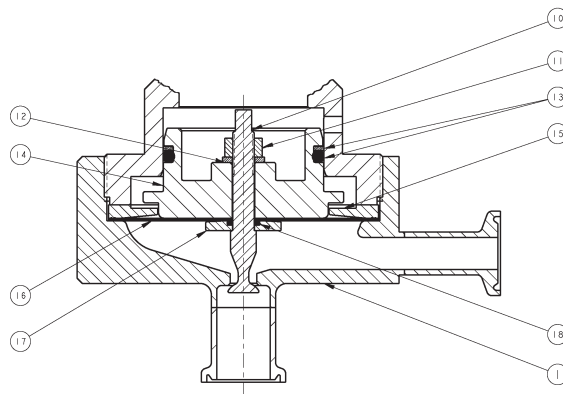

FIGURE 1: Diaphragm & Plug Subassembly
1. Secure the body (1) in a soft-jaw vise using the flats on the sides of the body. Orient the knob (3) upwards.
2. Relax compression on spring (8) by turning knob (3) CCW until removed from spring chamber. Not necessary to rotate nut (5). Remove name plate.
3. Loosen spring chamber (2) by placing wrench on flats of spring chamber and rotating CCW making sure not to use flats on either side of vent hole.
4. Remove spring chamber, ball (6), spring button (7) and range spring.
5. With a wrench, secure the flats on the plug (10). Using a 7/16" wrench rotate nut (11) CCW to remove nut and lock washer (12). **Do Not rotate the plug.** See Figure 1. Remove pressure plate (14). **NOTE:** For Model PA1: when nut is removed the plug (10) may slide out through the bottom, inlet connection. Do not let plug fall and damage seat surface.